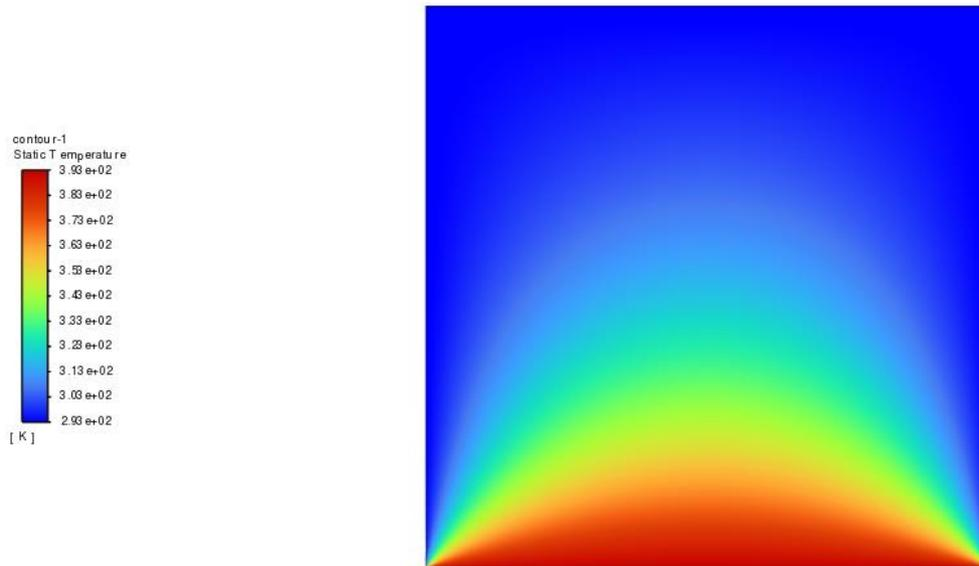

Fig 7.2 Steady State Heat Transfer across a 2D flat plate
- Named Selection → Specify the boundaries as given in fig.7.2